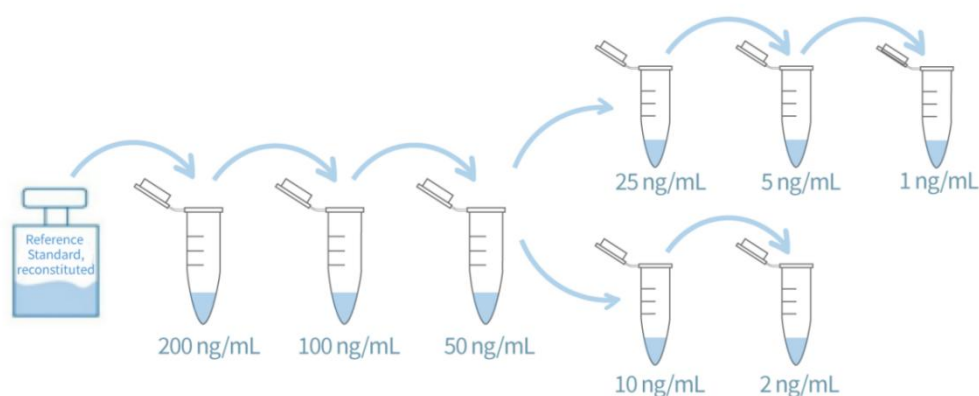

Figure 3. Graphic scheme of MDCK HCP Calibration Standard Solutions
(3) Preparation of Calibration Standard Solutions
- Prepare MDCK HCP Calibration Standard Solutions as indicated in Fig 3 and Table 3.